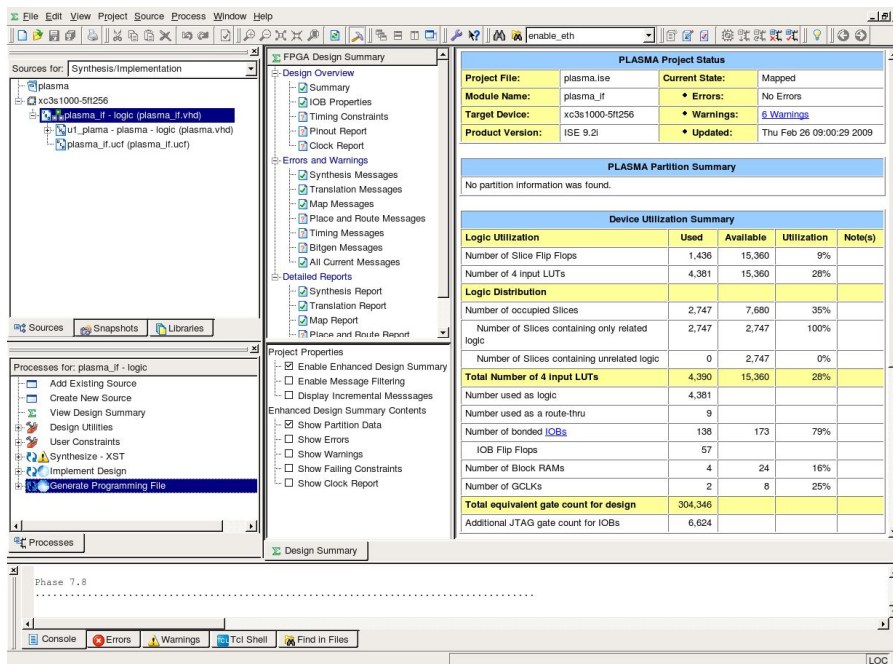

Figure 4 : Generating the Programming File (Bitstream .bit)
6. Generate the bitstream file (.bit) (Figure 4).